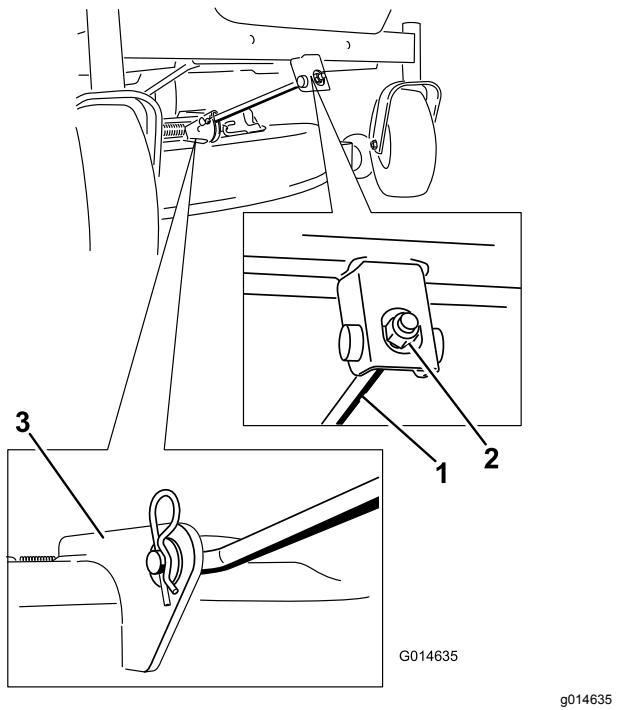

Figure 65
- Remove the hairpin cotter from the front support rod, and remove the rod from the deck bracket (Figure 65).
- Attach the front support rod to the mower deck with the clevis pin and hairpin cotter (Figure 65).